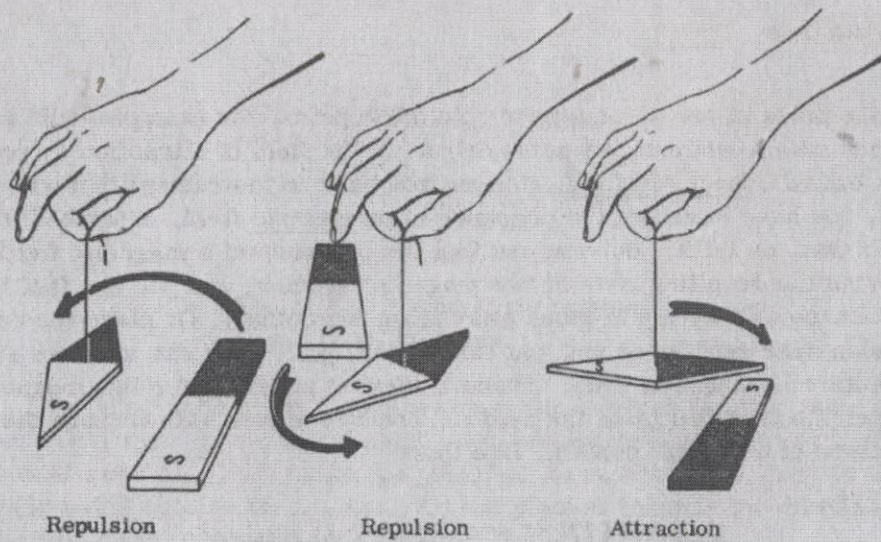

Figure 6-1. Laws of attraction and repulsion.
3. Figure 6-1 illustrates that magnets, like charged bodies, follow laws of attraction and repulsion. A north pole will (attract/repel) \_\_\_\_\_ another north pole.